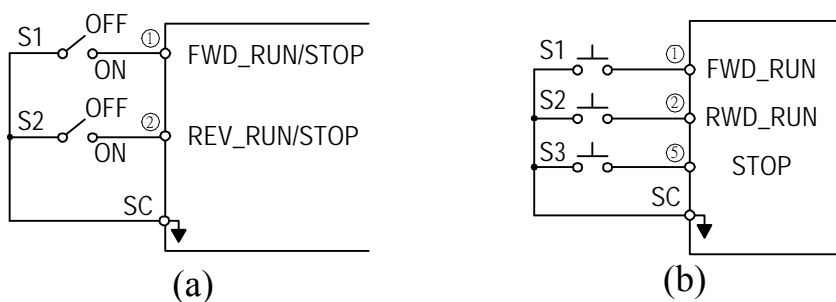

Fig. 38 2-wire mode connection diagram
- Under a standard 2-wire initialization mode as shown in Fig. 38(a), S1 and S2 can not be both “ON” at the same time.
- When Sn-25=’01’, the 2-wire operation mode has its self-sustaining function. Only through the multi-function input terminal ⑤, the operator can stop the inverter after pressing the “STOP” key as shown in Fig. 38(b). As shown in Fig. 38(b), the switches S1, S2 and S3 do not need to be the self-sustaining switches. When S1 is depressed “ON”, the motor will be forward running. After S3 is depressed “ON”, the motor will stop. When S2 is depressed “ON”, the motor will be reverse running. After S3 is depressed “ON”, the motor will stop.